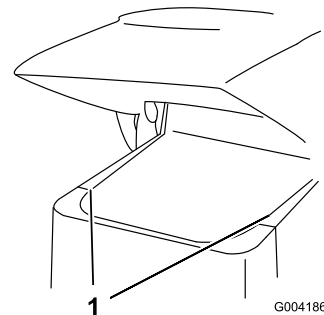

Figure 26
2. Slide the side screens (Figure 26) up and out of the slots in the front screen and frame.